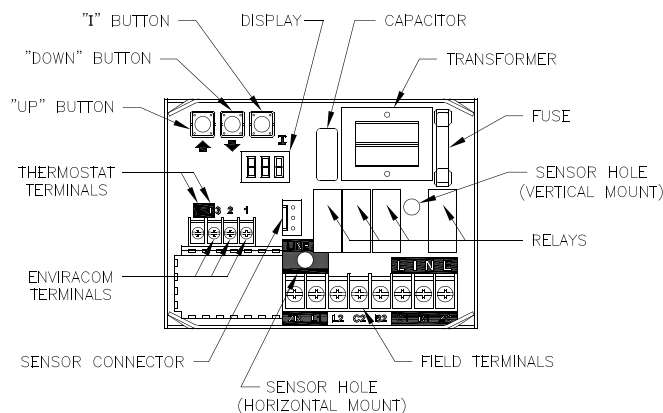

Figure 20: Intelligent Oil Boiler Control
- The boiler's sequence of operation is shown as Status Codes on Boiler Control display. See Table 6 and Figure 20.
- If the thermostat is not satisfied and the Operating Setpoint (SP) is reached the system circulator will continue to operate and the burner will stop. When the boiler water temperature drops below the setpoint less the differential setting the burner will restart.
- When an indirect water heater aquastat call for heat is wired to the "ZR" terminal the Boiler Control starts a domestic hot water circulator connected to the "ZC" terminal and when the boiler temperature is less than Operating Setpoint (SP), the boiler control energizes the oil primary to turn on the burner without circulator pre-purge delay.
- On burner start, if the CAD cell does not see flame within approximately 15 seconds, primary control will shut down the burner and enter into a lockout mode. A lockout is reset by pressing the reset button located on the primary control. If the flame is lost while the burner is firing, the primary control shuts down the burner, enters a 60 second recycle delay, and repeats the ignition sequence. If after three (3) trials for ignition, flame is not detected, primary control will enter into restricted mode. Restricted mode is reset by holding down the reset button for 15 seconds.